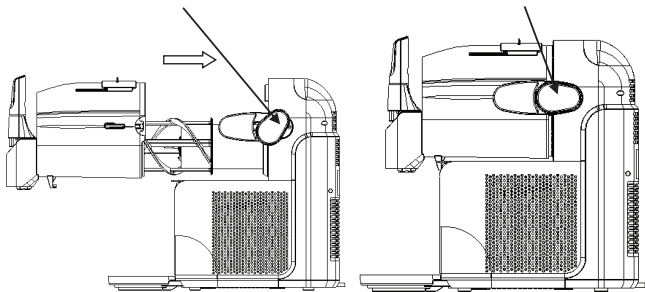

Figure 3-2
- b. Before discharging and operation, the mixing fan blade and the charging barrel must be assembled and locked, as shown in the figure 3-2: